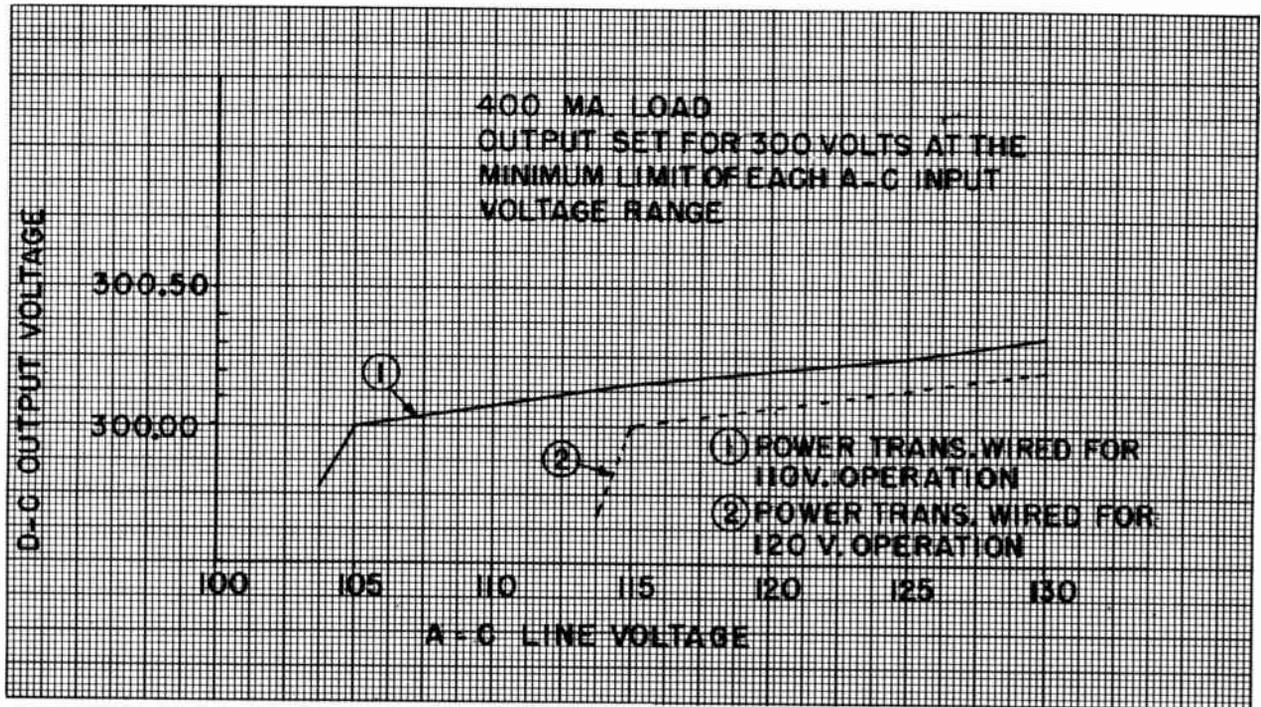
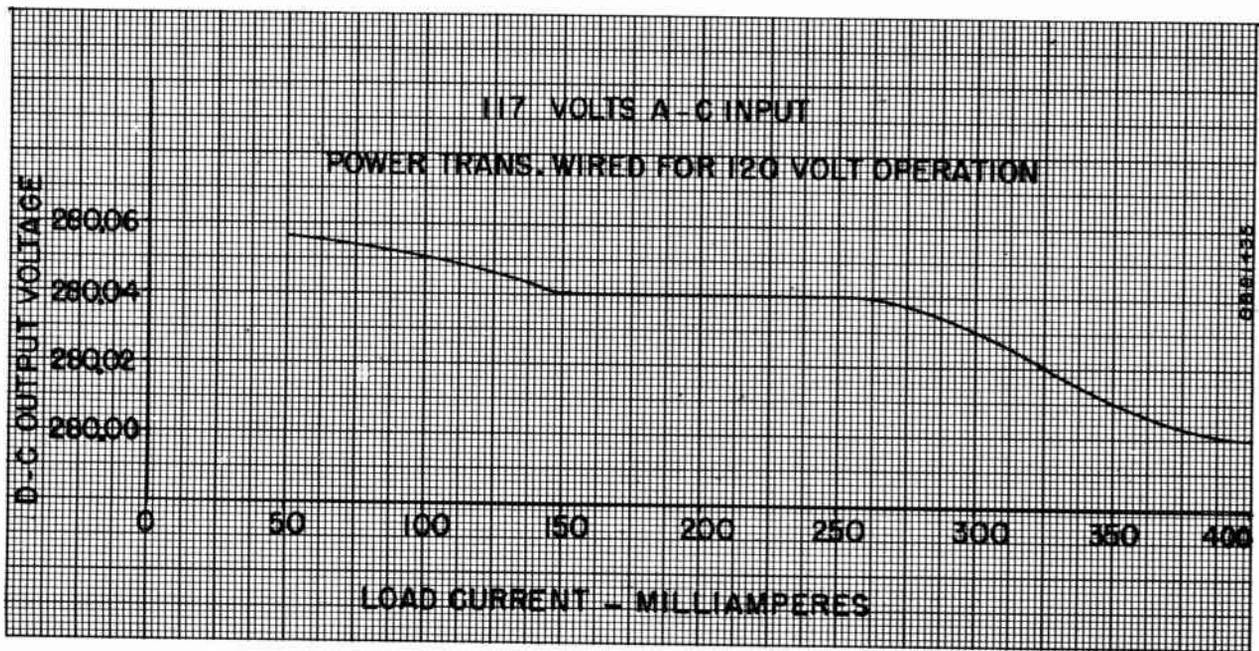

Figure 2—Regulation Curve of a Typical Unit Showing Output Voltage Versus Line Voltage
Figure 3—Regulation Curve of a Typical Unit Showing Output Voltage Versus Load Current
Type 580-D Regulated Power Supply is a general purpose d-c power source with exceptionally good voltage regulation, supplying constant output voltage over wide variations in load current and line voltage. It is designed for television, laboratory or any other application in which a well regulated d-c power supply is required. The output voltage regulating characteristics of a typical unit at various load currents and line voltages are shown in Figures 2 and 3.
a. Excessive hum will develop when the power supply is operated outside its regulating limits. The curves of Figures 2 and 3 show the limits for operation. As shown by Figure 2, for example, poor regulation will be obtained (which can result in excessive hum) if the power transformer is improperly connected for the line voltage being supplied (see Section III, Paragraph 2).
Figure 3 shows maximum and minimum load currents for proper operation.
Voltage regulation characteristics of the power supply are shown graphically in Figures 2 and 3. Figure 2 shows the output voltage with varying line voltage. Figure 3 shows the output voltages with constant line voltage and varying load.